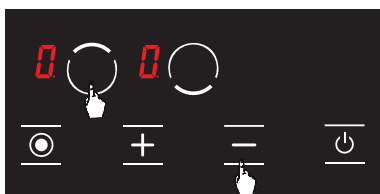

Figure 21
- Press upper hob selection key (**⦿**) and minus key (**-**) simultaneously. (see Fig. 21) You shall hear a short warning signal at this time. Then, remove your fingers from the stove control panel.